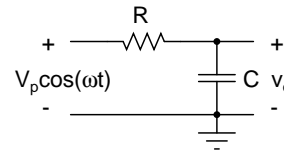

Figure 2:
3. The filter in Fig. 2 is driven by a sinusoid at $\omega = 1/RC$. Calculate the output noise voltage, output signal to noise ratio (ratio of mean squared signal to mean squared noise voltages), and the power dissipated in the circuit. If the impedances of all components are scaled up by a factor α , what happens to the transfer function of the circuit, output noise voltage, output signal to noise ratio, and the power dissipation?